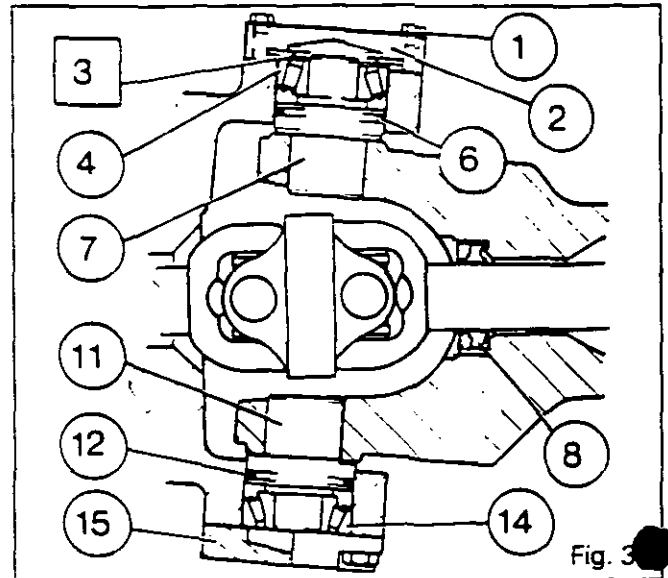

Fig. 3
### Removal of swivel housings (Fig. 3 - 4)
14. If necessary, remove oil seals (8) (Fig. 3).